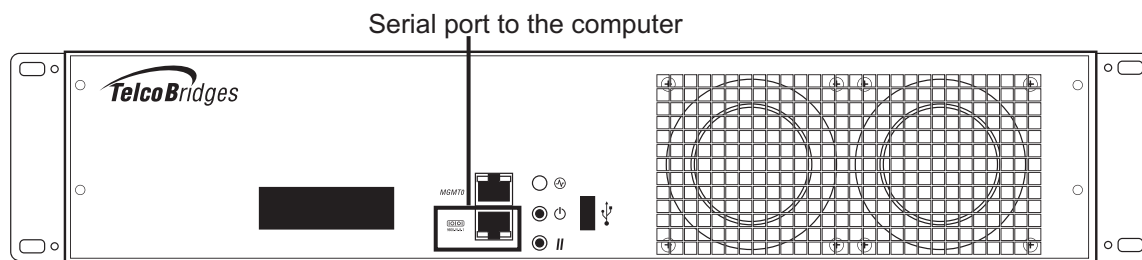

Figure 3.1 Computer to 3200 Series Gateway Serial Port Connection
1. Connect a CAT5 RJ-45 (male-male) cable (supplied with unit) between the com port of your computer and the serial port (labelled 10101) of the 3200 series gateway as shown in figure 3.1 on page 56. See Section A.2 on page 65 for a RJ-45 console wiring diagram.